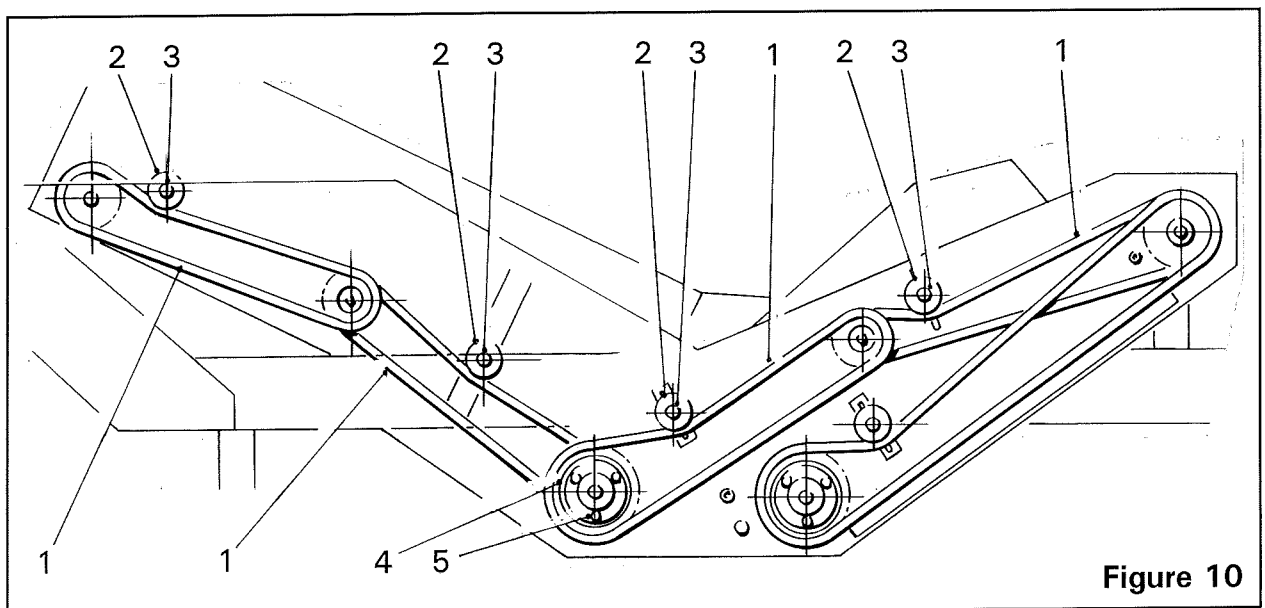

Figure 10
The 2nd stage is driven by four drive chains (*item 1, figure 10*). Each drive chain is tensioned by a roller (*item 2, figure 10*). To adjust the tension of a chain, loosen the securing bolt (*item 3, figure 10*) and slide the roller to achieve the correct tension. Once achieved, retighten the securing bolt ensuring that the roller is still able to turn.
The 2nd stage torque limiter (*item 4, figure 10*) is fitted to prevent serious damage should the 2nd stage become overloaded, jammed or obstructed. The amount of torque required to start the torque limiter slipping can be varied by turning the three setscrews (*item 5, figure 10*).
*Over-tightening of the setscrews (*item 5, figure 10*) will render the torque limiter ineffective. The setting of the torque limiter should be checked regularly to ensure that it is working correctly.*
The torque limiter should be set to just drive without slipping under normal working conditions. Adjust the three setscrews (*item 5, figure 10*) a 1/4 turn at a time. Always adjust the setscrews equally.